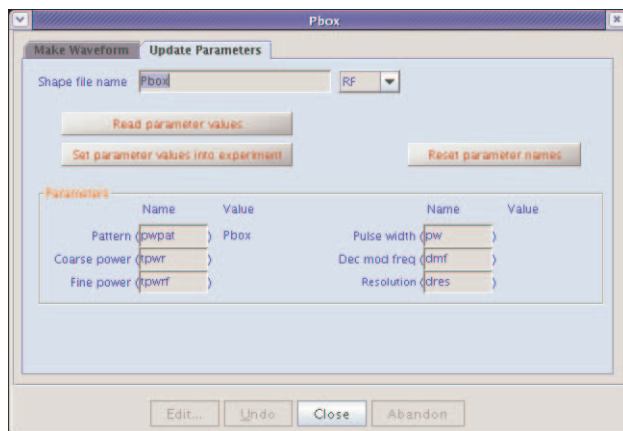

Figure 104. Pbox Update Parameters
- Click the **Update Parameters** tab, see Figure 104.